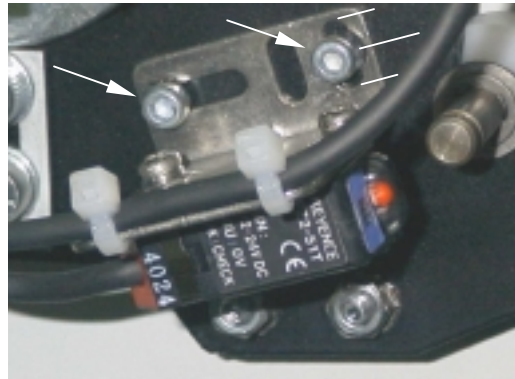

fig. 20
4. Remove the two M4 bolts (see the white arrows in figure 20, the left hand Photoelectric Cell is shown here).
6. When reassembling the Photoelectric Cell, make sure that the bracket is positioned in such a way, that the M4 bolt is in the middle of the vertical slot as in figure 20 (three white lines). The same procedure counts for the other Photoelectric Cell.
8. Assemble the new tie-wraps as shown in figure 20.